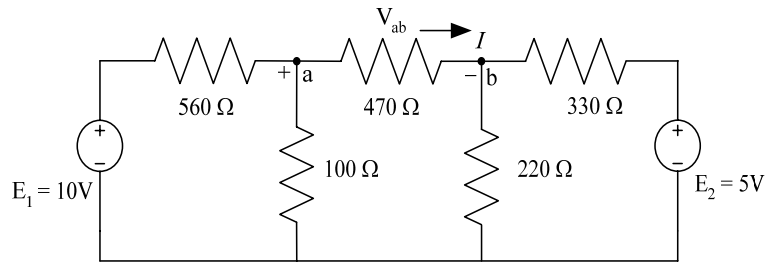

Figure 6.4: Circuit 02 (E_1 and E_2 activated)
5. Make necessary circuit connection of circuit 02 shown in Figure 6.4.
2. Verify Superposition theorem for the circuit shown in Figure 6.4 both experimentally and theoretically. *[Use measured value of resistance for calculations.]*